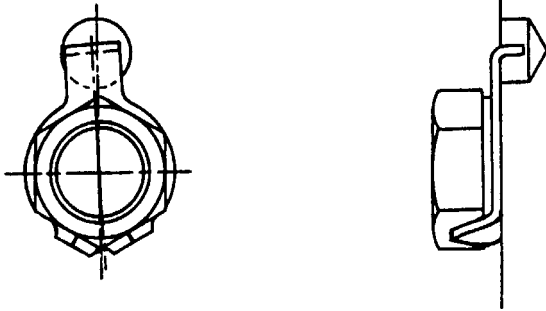

Figure 9-3
3. Bend tabs against the head flats firmly by tapping them into place with a soft drift. See Figure 9-3, “Tab Washer Installation Procedure.”